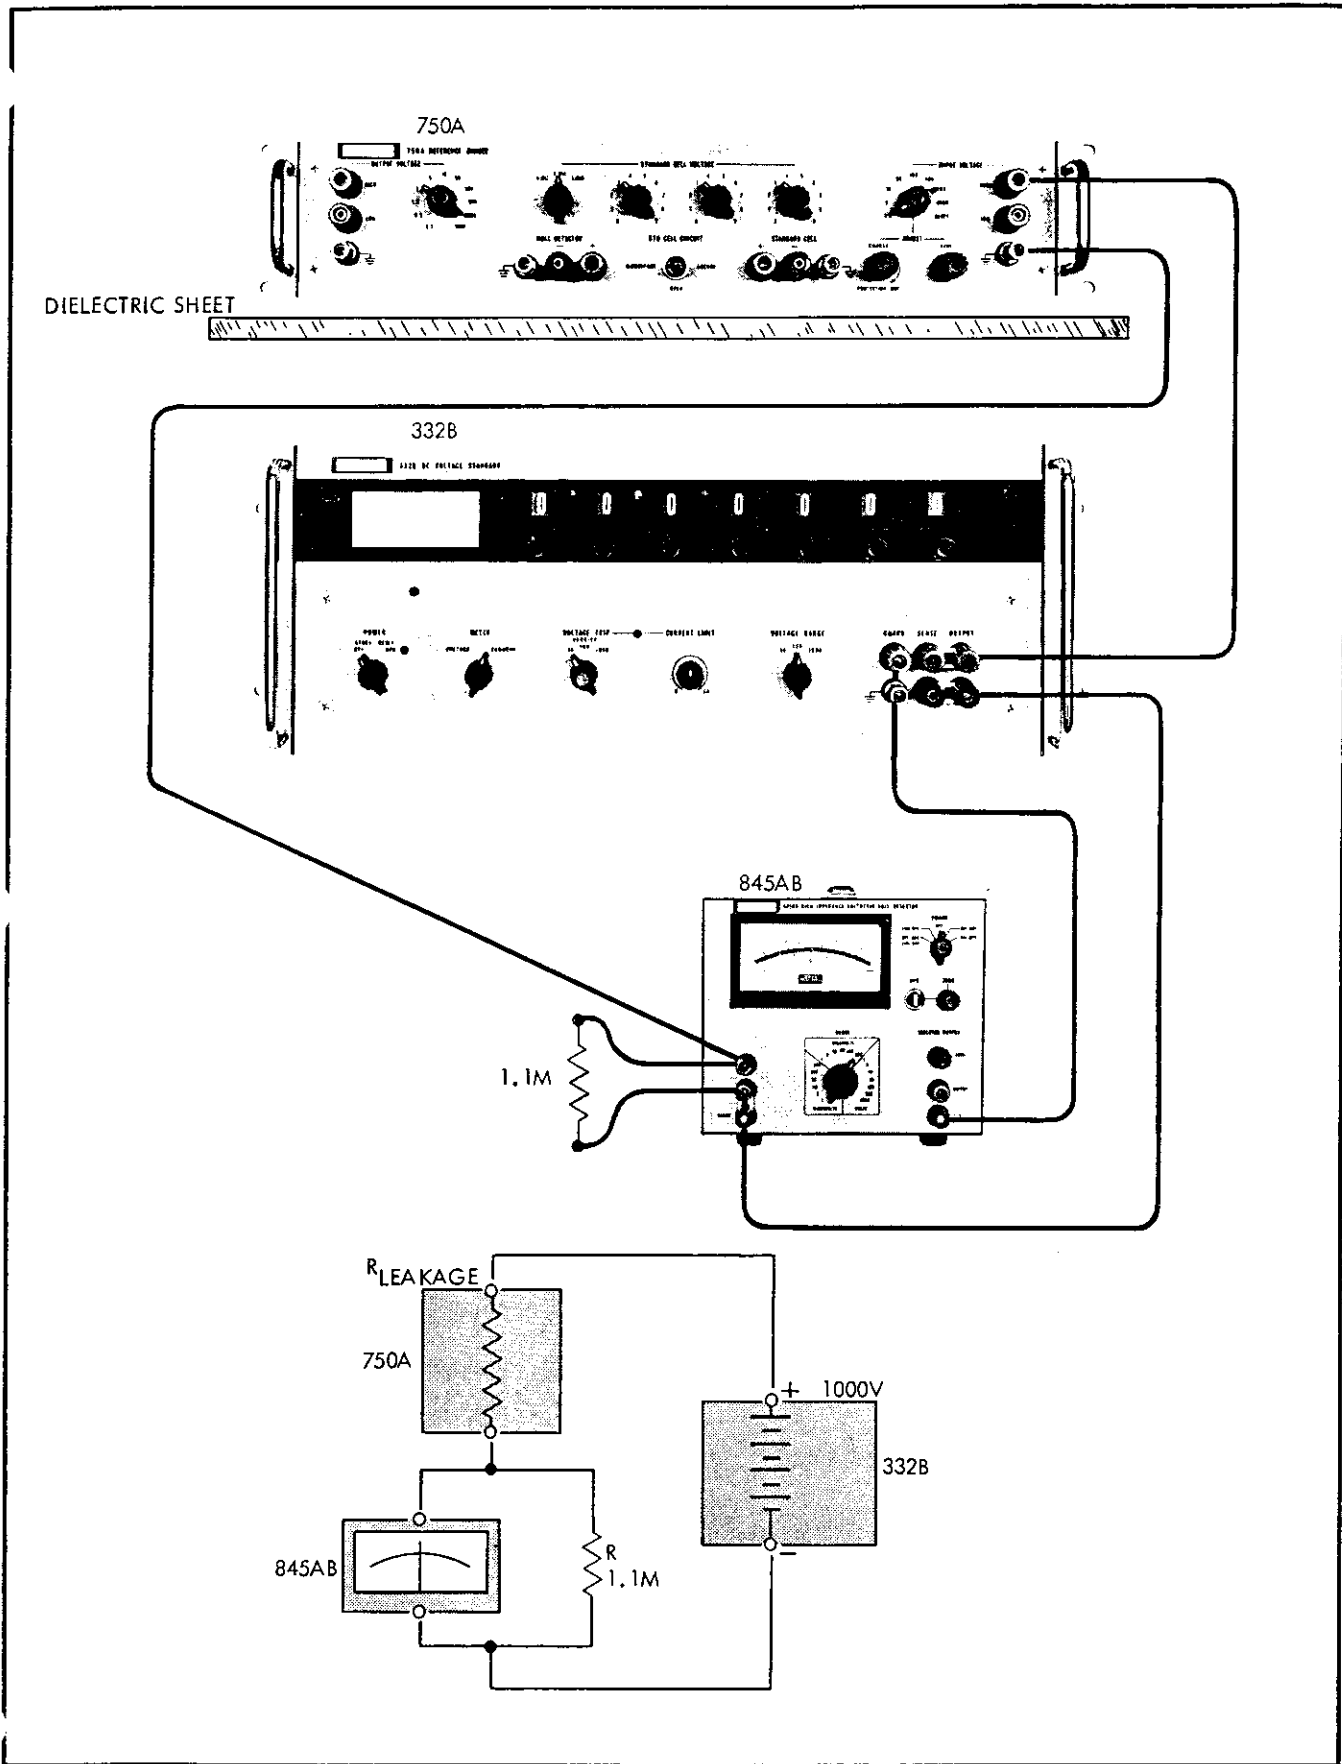

Figure 4-3. EQUIPMENT CONNECTIONS FOR LEAKAGE RESISTANCE TEST
- b. Use teflon insulated wire to connect the Model 750A, a 1000-volt source (Model 332B), and a null detector (Model 845AB) as shown in Figure 4-3.